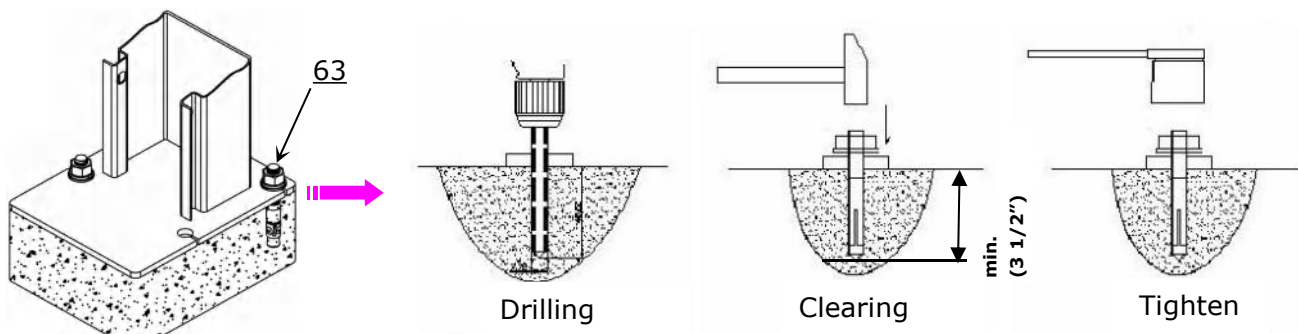

Fig. 34
- 3. Use the prescribed rotary hammer drill, drill all the anchor holes and install the anchor bolts and tighten all nuts. (See Fig. 34)